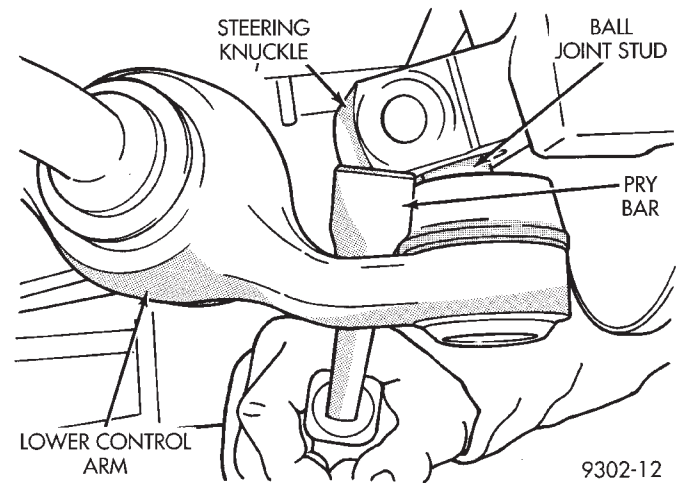

Fig. 2 Separating Ball Joint From Steering Knuckle
(4) Carefully insert a pry bar between lower control arm and steering knuckle (Fig. 2). Push down on pry bar to separate ball joint stud from steering knuckle (Fig. 2). **Note: Use caution when separating ball joint stud from steering knuckle so ball joint seal does not get cut.**